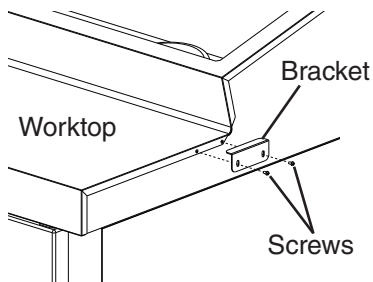

Fig. 6
- 1) Attach the cutting board brackets to the ends of the worktop using the 4x8 stainless steel sheet-metal screws provided. Snug the screws, but do not tighten. See Fig. 6.